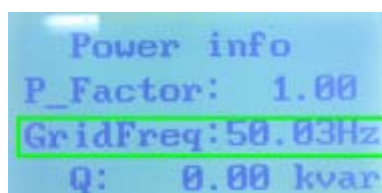

Fig.4.6.1 Power information interface
1. Check whether the frequency on the LCD as Fig.4.6.1 and measured grid frequency by multi-meter are both within the local grid standards, if not, please contact local electricity company.